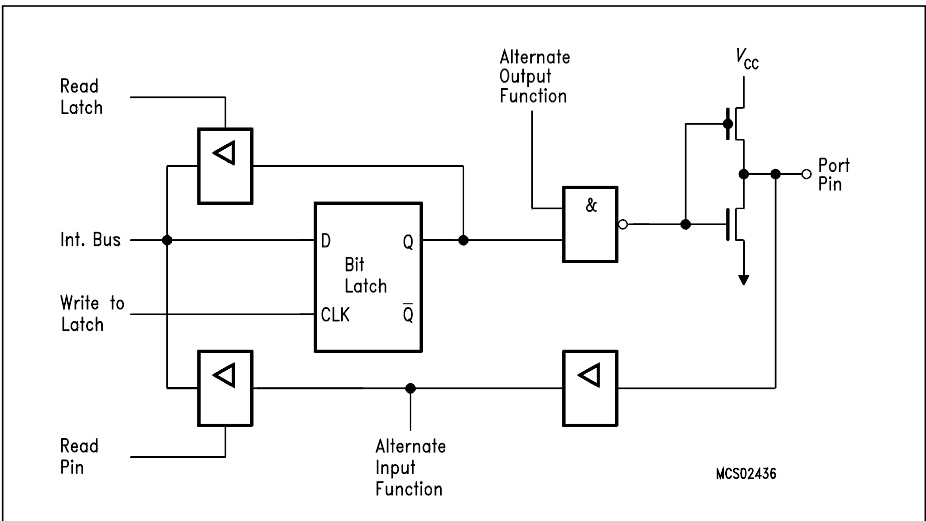

**Figure 6-5a**
**Figure 6-5a** shows a functional diagram of a port latch with alternate function. To pass the alternate function to the output pin and vice versa, however, the gate between the latch and driver circuit must be open. Thus, to use the alternate input or output functions, the corresponding bit latch in the port SFR has to contain a one (1); otherwise the pull-down FET is on and the port pin is stuck at 0. After reset all port latches contain ones (1).